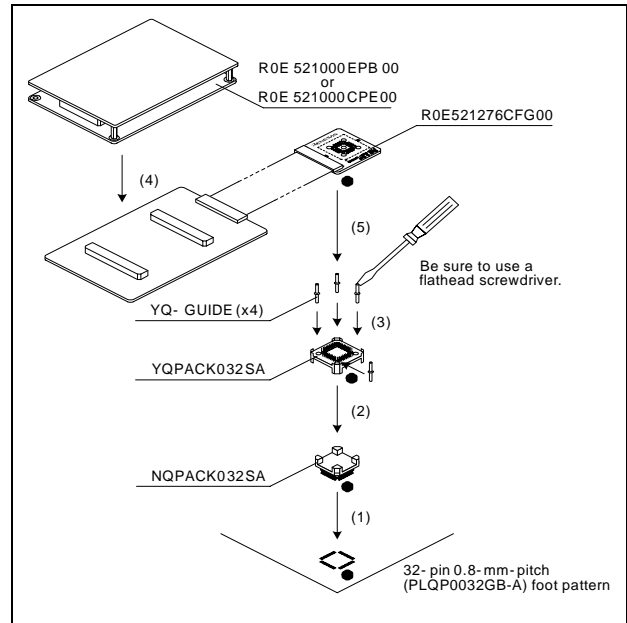

Figure 3 Connection procedure of the R0E521276CFG00
5. Connection Procedure (See Figure 3)